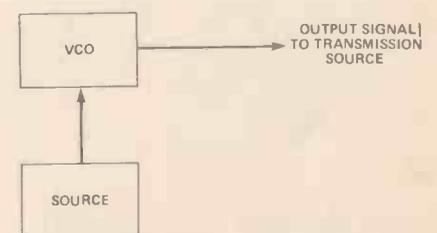

Figure 22. The principle of FM telecommunications.
Figure 23. Signals within a typical FM telecommunications systems such as that of Figure 22: a) message signal (eg a squarewave); b) the carrier's centre frequency; c) the output signal to the transmission medium.
One other form of modulation used in FDM telecommunications systems is frequency modulation (FM). This is similar to AM but instead of varying the amplitude of the carrier with the message signal, the carrier frequency is varied instead. Figure 22 shows in principle how this is done, using a voltage controlled oscillator (VCO) as the carrier signal generator. The voltage of the message signal is used as the VCO's control input to control the carrier frequency. The oscillator's output is used directly as the signal to the transmission medium in the same way as in the AM system. Figure 23 shows possible signals involved in such a system. Figure 23a is the message signal, a squarewave. Figure 23b is the VCO's centre frequency, which is the carrier. Figure 23c is the VCO output signal. You can see that when the message signal voltage is high the VCO is at a higher frequency than the carrier frequency, and when the message signal voltage is low the VCO output is at a lower frequency than that of the carrier. If a continuously varying signal were used as the message, eg the signal from a human voice, or music, then the VCO output would be a continuously varying range of frequencies centred around the carrier frequency.